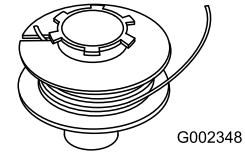

Figure 14
2. Hook one end of line **all the way** into the slot on the spool (Figure 14), **allowing no more than 1/8 inch (3 mm) to protrude.**